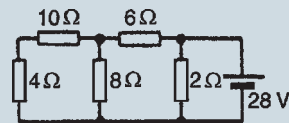

Figure 15.51
- In the network shown in Fig. 15.51, the battery has negligible internal resistance. Find, using Thévenin's theorem, the current flowing in the 4Ω resistor.